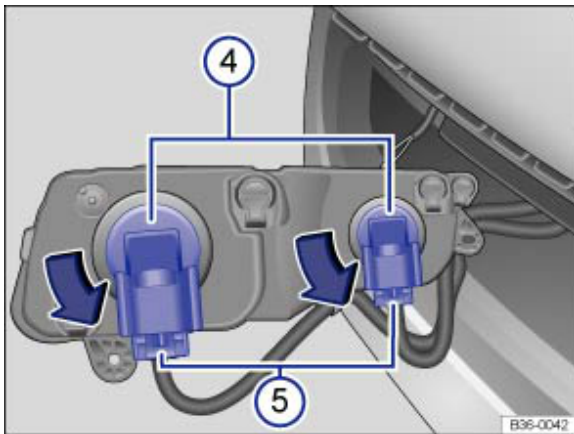

Fig. 245 Changing the bulbs in the headlights
6. Release the connectors → Fig. 245 ⑤ and pull them off.
7. Turn the bulb → Fig. 245 ④ anti-clockwise as far as it will go and pull it out.
11. Push the corresponding connector → Fig. 245 ⑤ onto the bulb until it audibly engages.